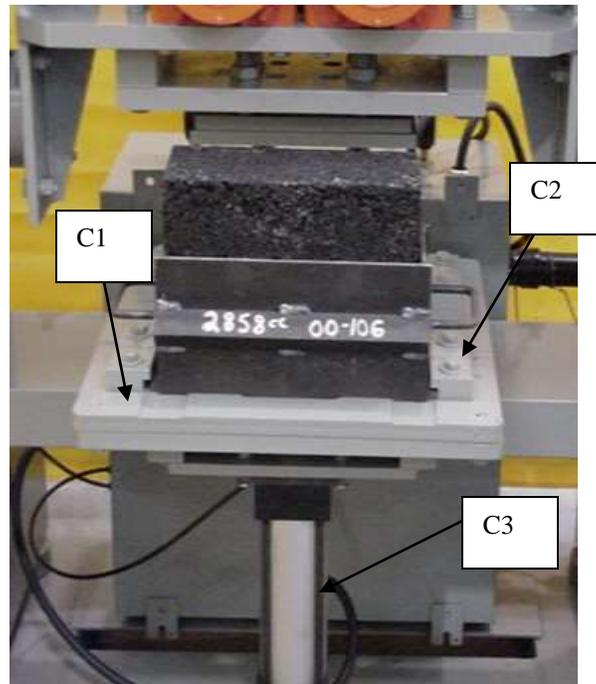
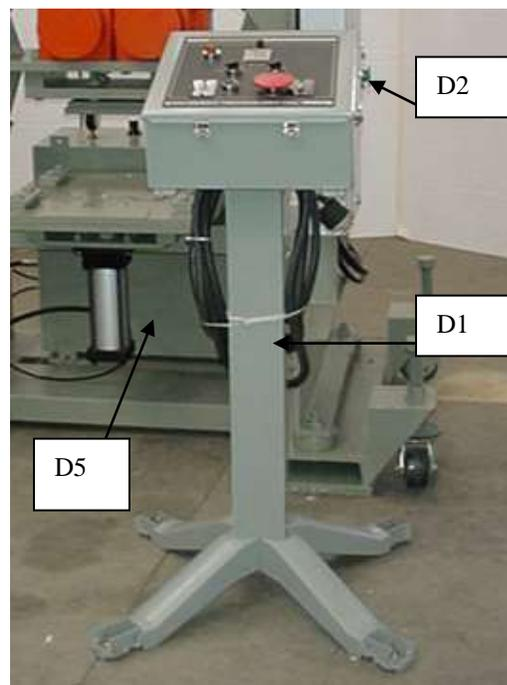

Figure 7
Figure 8
- (C1) Specimen supporting base, see Figure 7 and Figure 8: The base has a recessed area for the beam mold or the cylinder mold to fit into for positioning the specimen mold during the extruding operation.
- (C2) Specimen restraining brackets, see Figure 7.
- (C3) Extrusion pneumatic cylinder, see Figure 7.
- (D5) Control circuit box, see Figure 8.
- (A) Before connecting the main power cord to the power source, take a few minutes to familiarize yourself with the switches on the control unit, see Figure 8.
- (B) On the control unit, turn the MODE switch to MANUAL, VIBRATION switch to OFF, depress the EMERGENCY STOP button.
- (C) Plug the main power cord to the power source and turn power switch on. Check the left and right pressure gauge readings. The left pressure gauge should indicate a 100PSI pressure and the right pressure gauge should indicate a 20PSI pressure. If the pressure gauges do not indicate these readings, use the pressure regulator adjacent to the pressure gauge to make the adjustment. (Most models have the pressure regulators and pressure gauges mounted on top of compactor back panel).